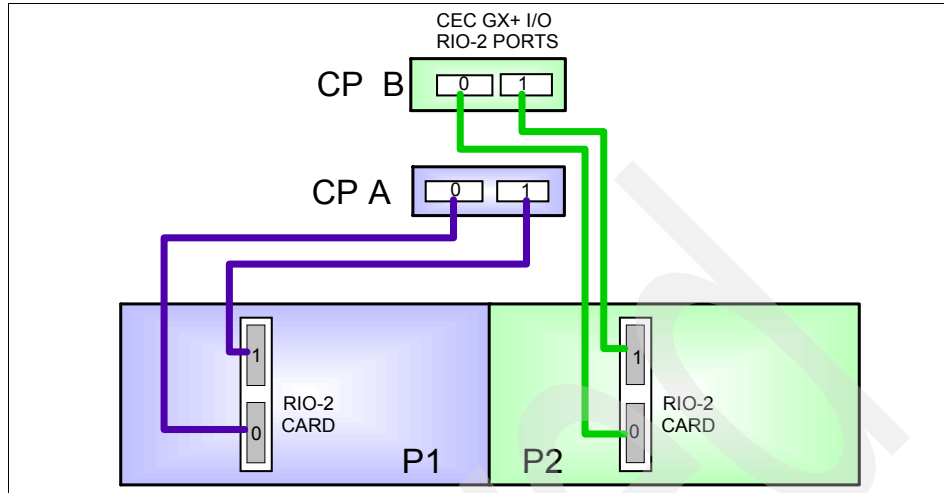

Figure 2-12 Dual loop 7040-61D
- ▶ Dual-loop (Figure 2-12) mode connects each I/O planar in the drawer to the CEC separately. Each I/O planar is connected to the CEC using a separate RIO-2 loop. Dual-loop connection requires two loops (4 ports) per I/O drawer. With dual-loop configuration, the RIO-2 bandwidth for the I/O drawer is higher.
Although I/O drawers will not be built in half-drawer configurations, they can be cabled to, and addressed by the CEC, in half drawer increments (Figure 2-12).